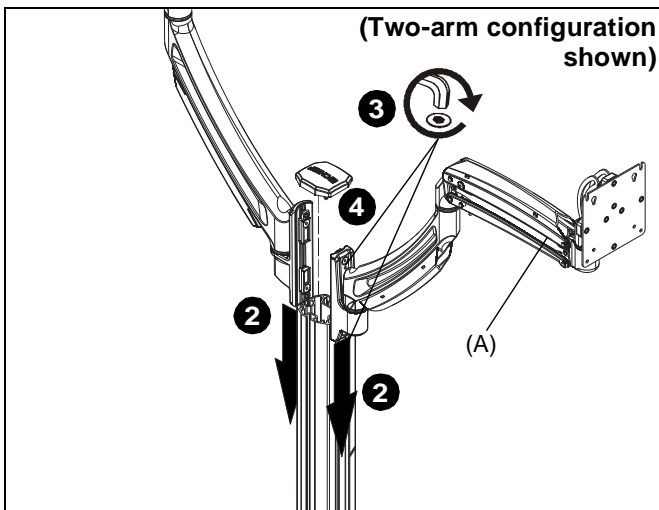

Figure 1
2. Slide MSP-WLK1 arm(s) (A) onto MSP-WLC20/30 column in channels to be used for mounting. (See Figure 1)
3. Tighten screws to secure each arm to column at desired mounting height. (See Figure 1)
4. Replace cap on top of column. (See Figure 1)